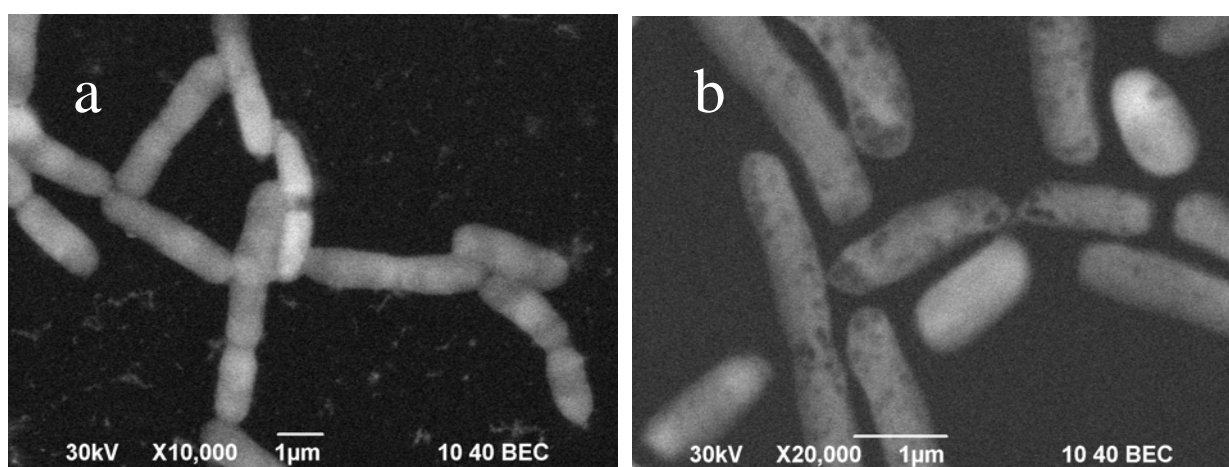

Fig. 1. ASEM images of *Escherichia coli* cultured for 2 hours (a) and for 48 hours (b).
13. Start the observation under proper conditions (for example, spot size = 30 - 40, acceleration voltage = 30 kV) with ASEM (Fig. 1).